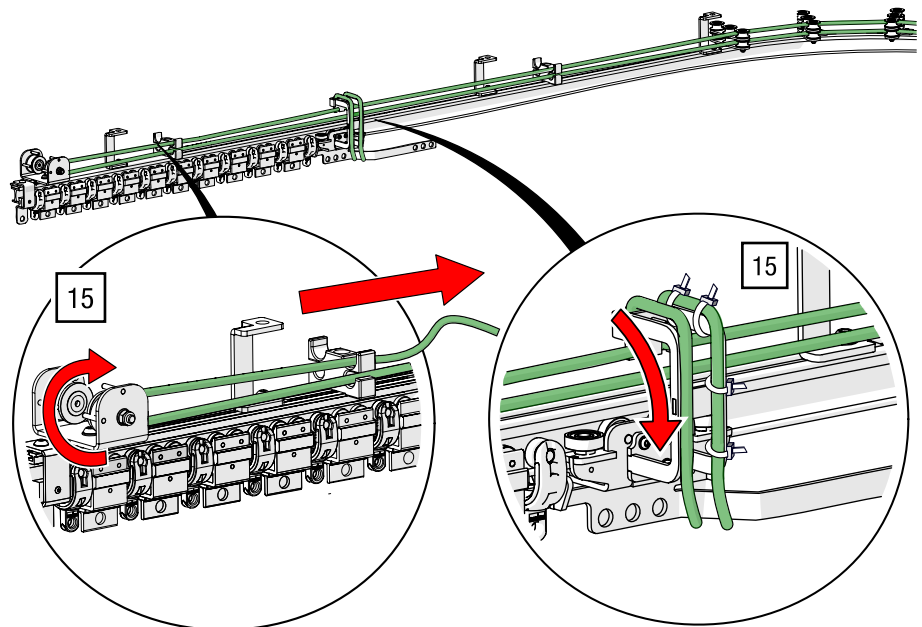

Fig. 113: Double top cord operation – Guide the end of the cord through the return pulley into the master runner
15. Guide the second end of the cord through the return pulley into the master runner (see Fig. 113).